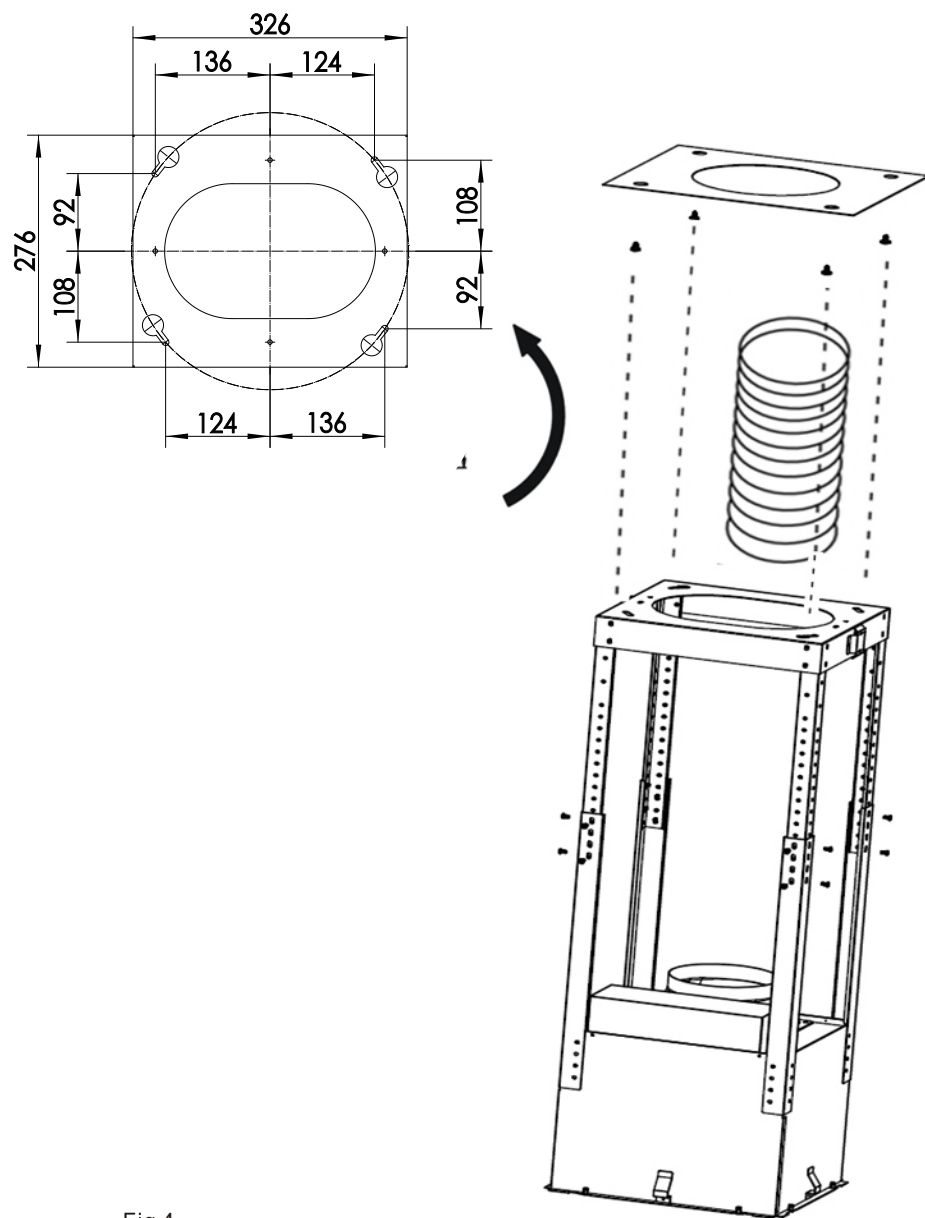

Fig.4
3. Place the ceiling hole diagram directly above the cook-top(the center of the diagram must match the center of the cook-top and the edges must be parallel to the sides of the cook-top) (Fig.4)
4. Drill as shown(4 plugs). Screw 4 hood mounting screws leaving a space of about 5mm between the screw head and the ceiling. (Fig.4)
5. Fix an exhaust pipe inside the truss and connect it to the motor compartment connection ring. (Fig.4)